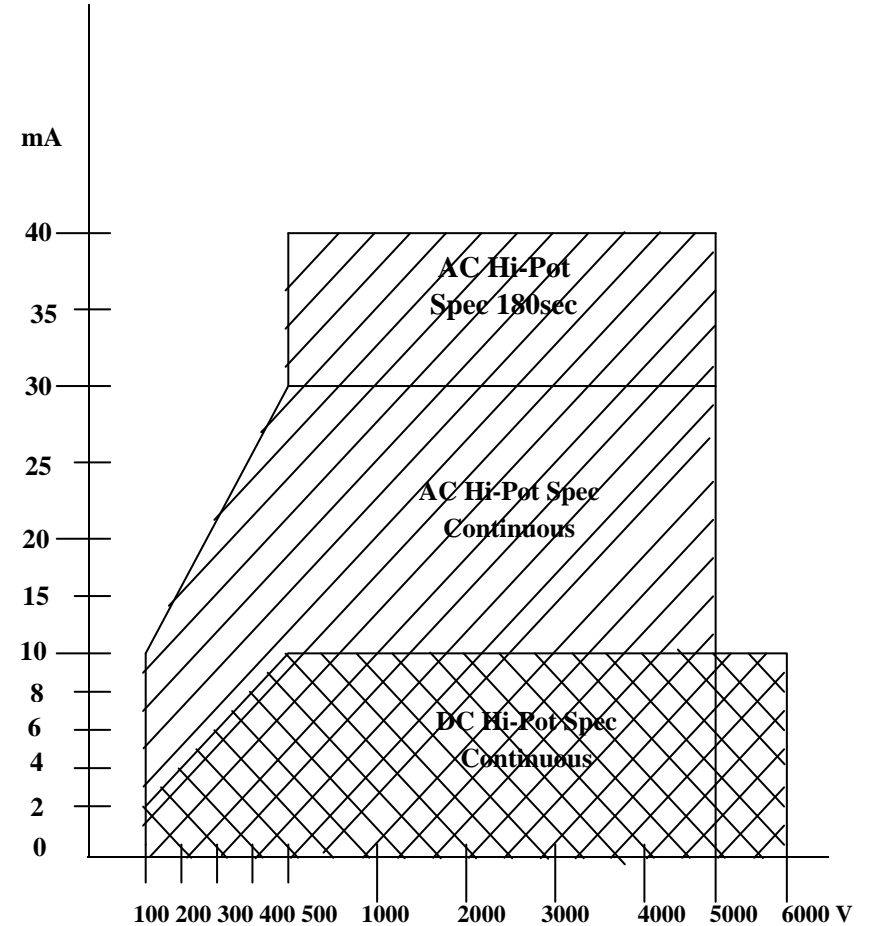

Figure 2-1
- * The main purpose provided by the series of instruments is for Puncture Testing. The specification is not for continuous test. The temperature of heat-sink is monitored. The test procedure will stop if the heat-sink is too hot. Please refer to Figure 2-1.